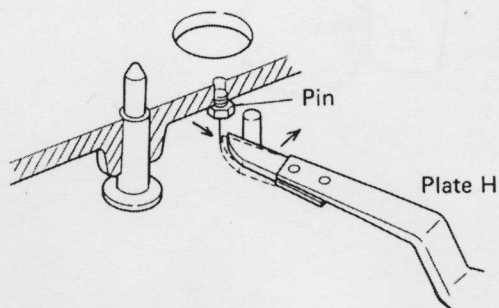

Fig. 9
3. While the tonearm stylus moves 1–1.5mm toward the center with each rotation of the record, plate H is brushed aside by the platter pin (Fig. 9).